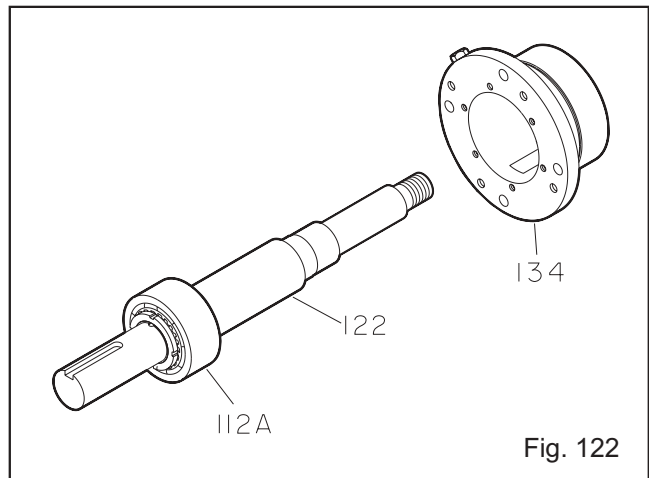

Fig. 122
5. Coat outside of outboard bearing (112A) and bore of bearing housing (134) with oil.
6. Install bearing housing (134) onto shaft/bearing assembly (Fig. 122).